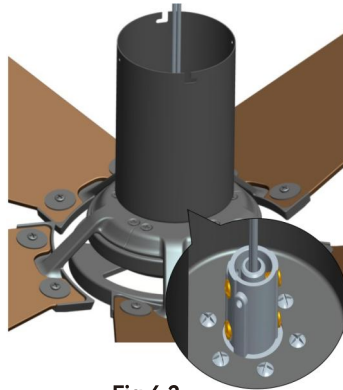

Fig 6.2
6.2 The fan bucket installed is shown in Fig 6.2.